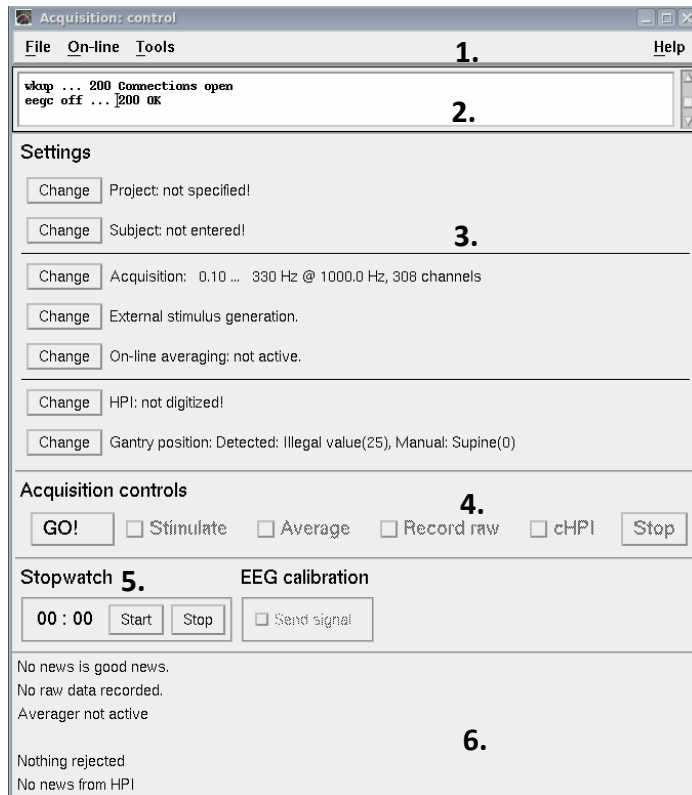

Figure 21: Acquisition control panel. 1. Menubar, 2. Log window, 3. Settings (Setup selections), 4. Acquisition controls, 5. Stopwatch, 6. Status messages.
The measured data are grouped into projects according to the conventions at each site. For example, one project might correspond to a group of patients with common symptoms or patients investigated by one clinician or researcher. The project contains patient/subject information and acquisition settings from one or more experimental setups. The project and corresponding experimental setup(s) are created in the **Settings** section of the **Acquisition: control** window in Figure 21.
- Continue with settings in Figure 21.